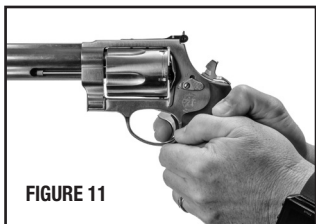

FIGURE 11
- Always use the proper grip as shown for a two-hand hold (FIGURES 11 and 12). This keeps hands and fingers away from the barrel/cylinder gap.